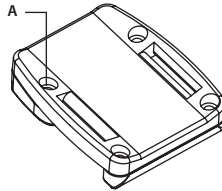

FIGURE 4-6. ADVANCED WIRELESS REMOTE CONTROL BATTERY INSTALLATION
1. Using a screwdriver, unscrew the four screws (A, Figure 4-6) that affix the cover to the bottom of the unit. Remove the cover.
3. Replace the cover and retighten the screws (A).